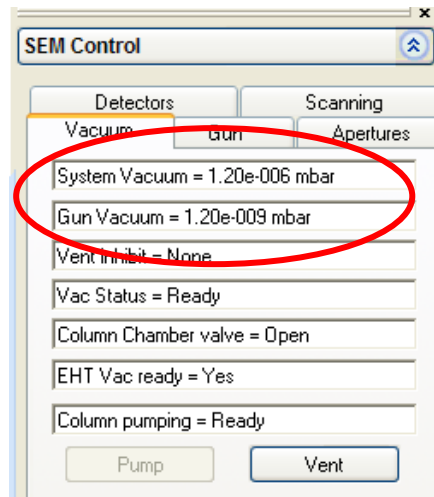

Figure 8: Vacuum tab.
4. Check that the system vacuum is below $2\text{e-}5\text{mbar}$ and that the gun vacuum is below $5\text{e-}9\text{mbar}$. See figure 8.